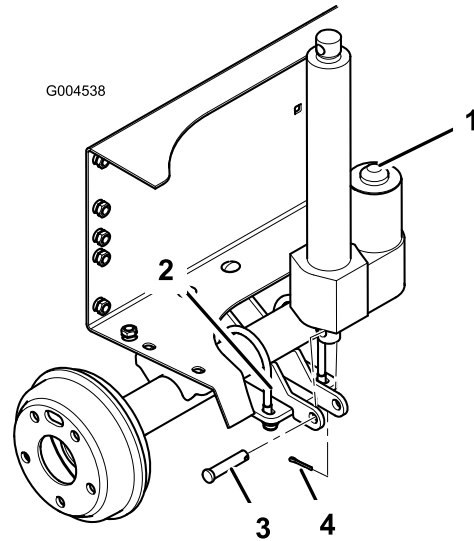

Figure 6
5. Mount the bottom end of the lift actuator to the lift cylinder support with a clevis pin and cotter pin. Position the components as shown in Figure 6.